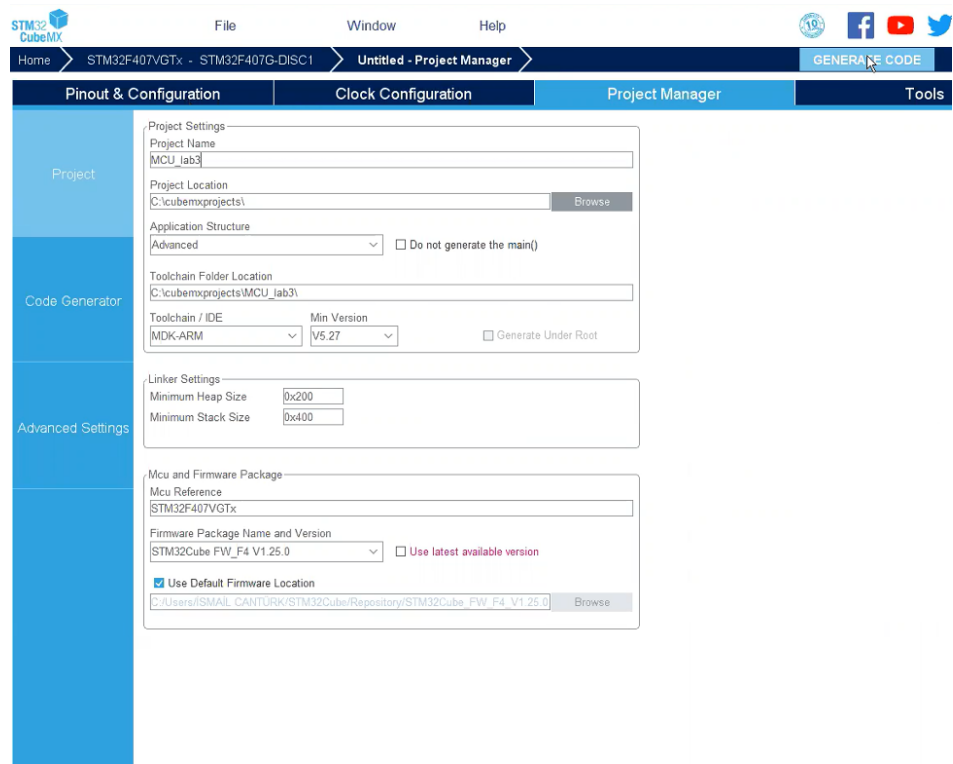
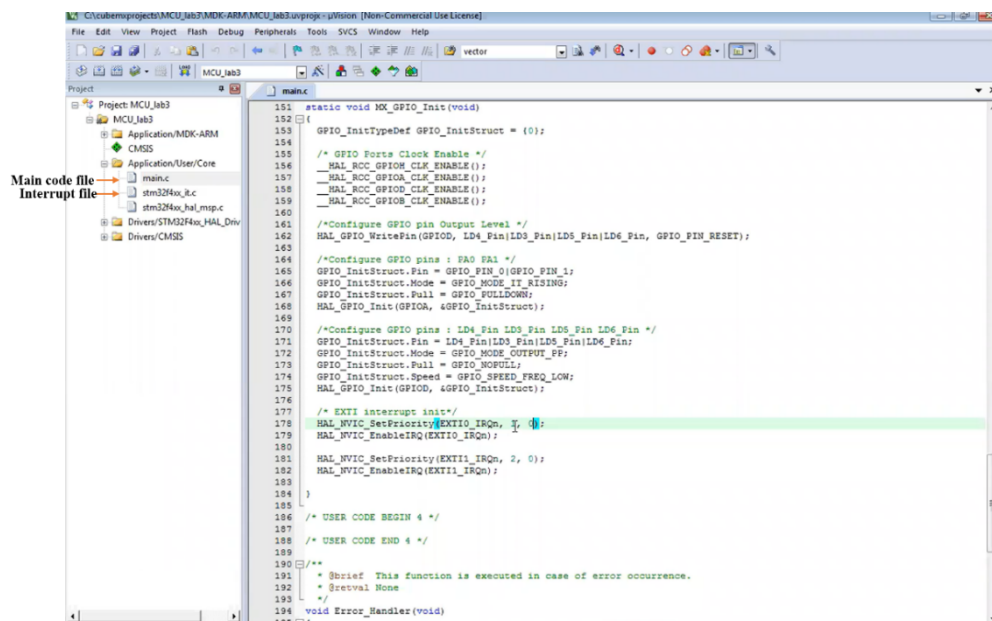

Figure 4
Figure 5
5. Come to the Project Manager and adjust necessary settings as in Figure 4. Then click the Generate Code (Figure 4). Keil μ Vision programme will open. We can see the settings which were done by CubeMx in the main.c file in Keil μ Vision (Figure 5). You can change the adjustments from here without going back to the CubeMx. Build the codes in the main.c file. Double click the interrupt file (stm32f4xx.c). We can see the interrupts functions here (Figure 6). We can write codes in the functions. If we want to understand what the function does, we can right click on the function and select the 'Go to Definition...' shown as in Figure 7.